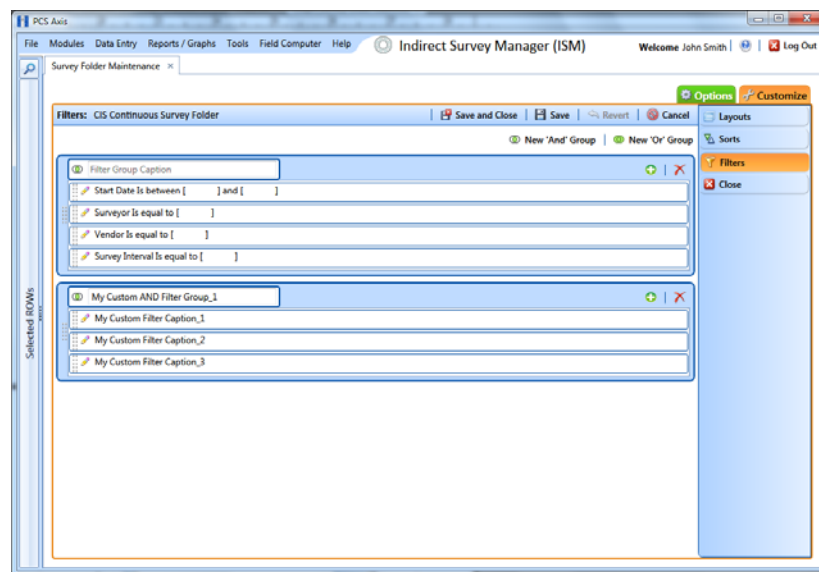

Figure 5-21. Filters
- 7 Click a filter's edit icon  to display filter property settings (Figure 5-21).